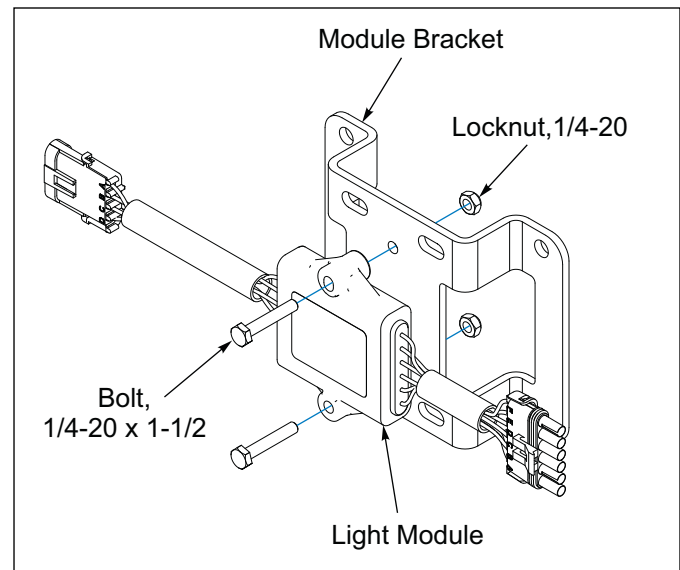

Figure 2-16: Light Module and Bracket
6. Attach the Light Module to the Module Bracket with 1/4-20 x 1-1/2 Bolts and Locknuts. **See Figure 2-16.**